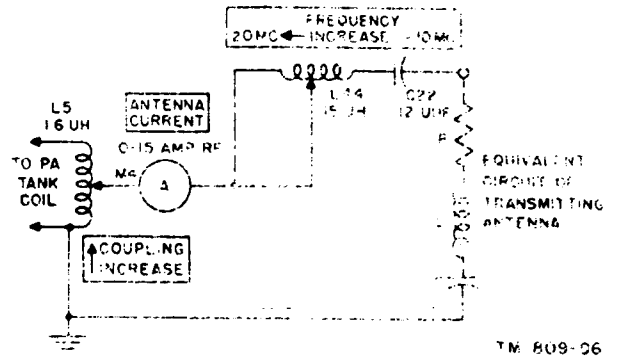

Figure 35. Antenna tuning unit with range switch in 10-20 M-C position.
b. Figure 35 is a functional schematic diagram of the tuning unit with range switch SW9